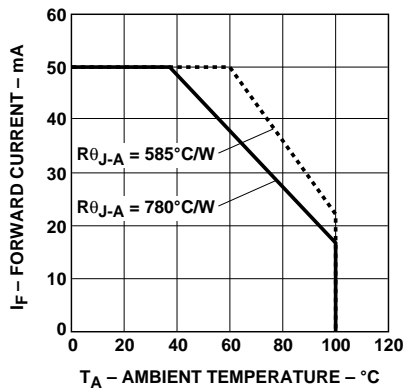

Figure 6. Amber, red maximum forward current vs. ambient temperature.
1. Derate linearly as shown in Figure 6 and 7.